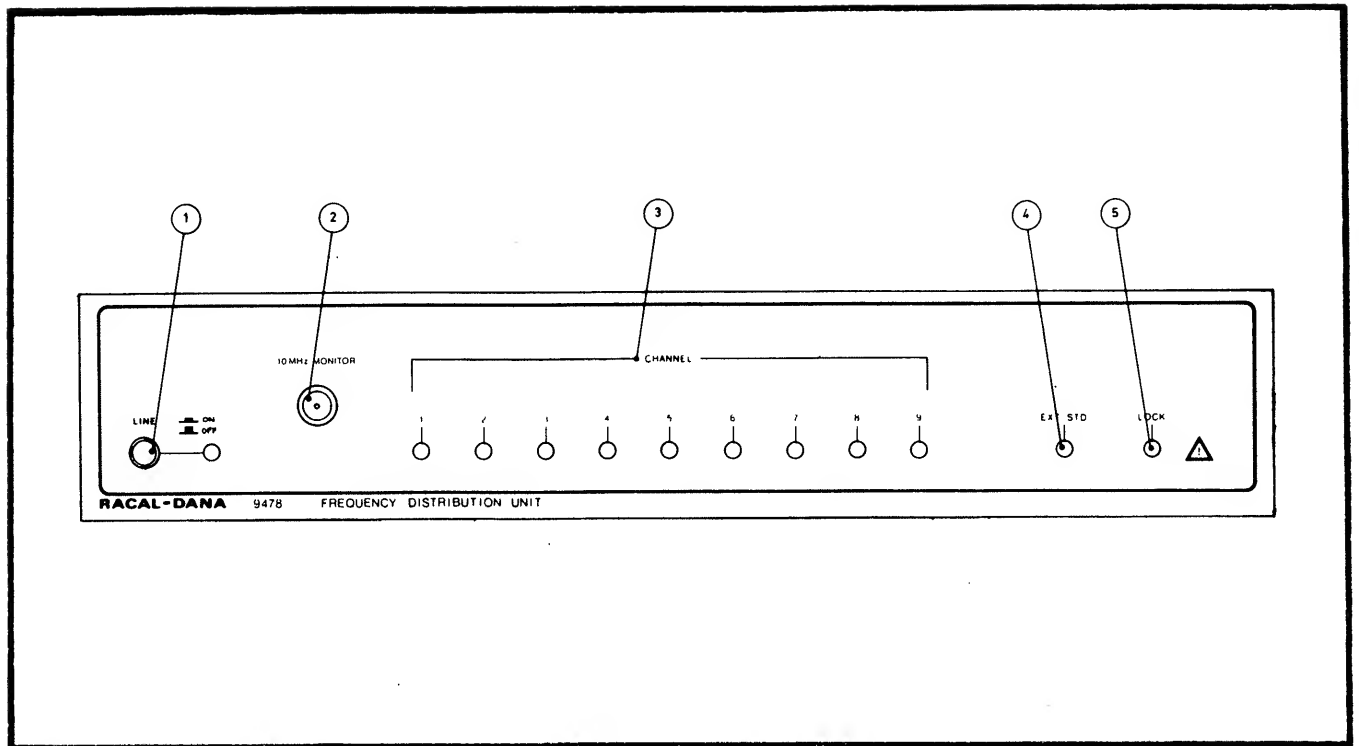
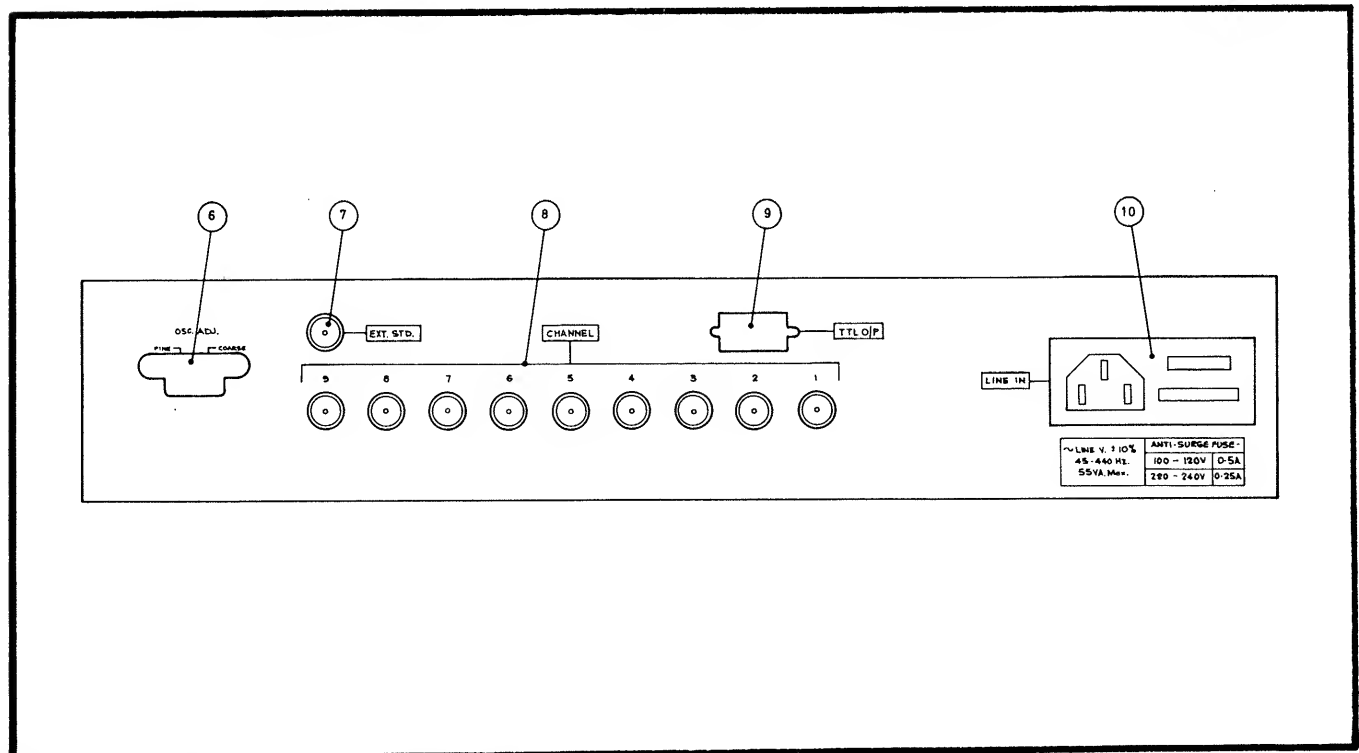

Fig. 4.1 Front Panel
Fig. 4.2 Rear Panel
- 4.2.1 Each group of controls, indicators or connectors described is numbered to correspond with the indicators on Fig. 4.1 (front panel) or Fig. 4.2 (rear panel).